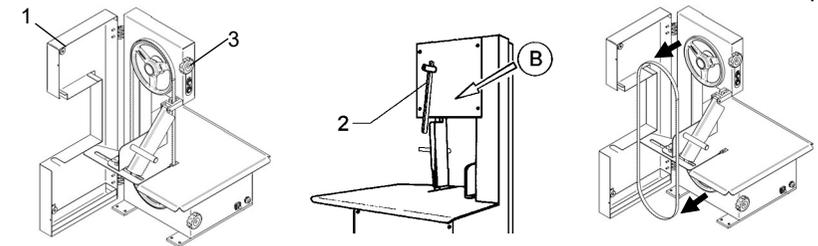

Fig. 7.6.2
7.6.2 - Replacing the blade (Fig. 7.6.2)
- Release knob "2" as indicated in fig. 7.6.2 arrow "B".
- Stretch the blade rotating the knob in position "A" (Fig. 7.6.2).